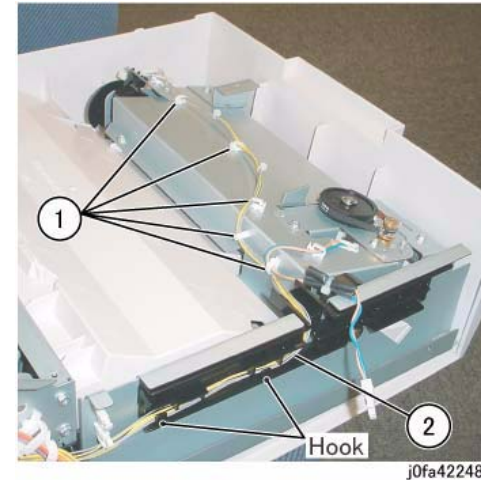

Figure 2 Disconnecting the Wire
9. Release the Clamps and the Hook to remove the wire (Figure 2):